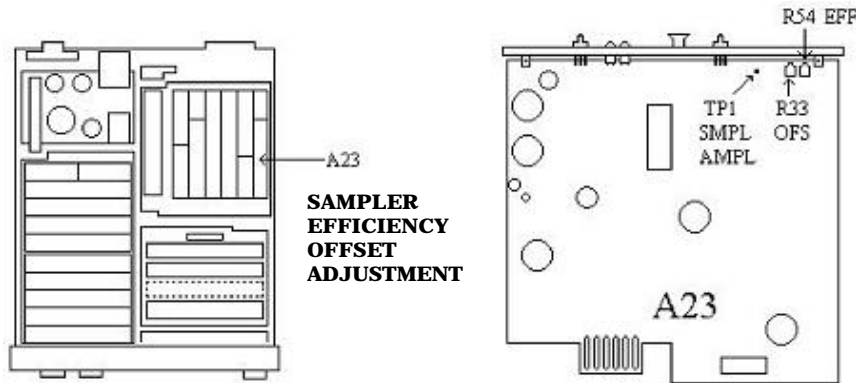

Figure 7. A23 board.
- (1) Disconnect equipment setup.
- (2) Connect TI sensor module to signal generator No. 1 **RF OUTPUT**.
- (3) Connect oscilloscope **CH1** to A23TP1 SMPL AMPL (fig 7).
- (5) Set oscilloscope for the following:
- (6) Press TI keys as listed in (a) through (c) below:
- (7) Fine tune signal generator No. 1 up slowly until a zero beat appears on oscilloscope. Then increase signal generator No. 1 frequency by 1 kHz. Record the oscilloscope peak to peak amplitude as PK#1.
- (8) Increase signal generator No. 1 frequency by 30 kHz.
- (9) Adjust A23R33 OFS (fig. 7) such that when the oscilloscope input coupling is changed from ac to dc the waveform shifts upward 50 mV. Adjust only when the input coupling is set to dc. (R)
- (10) Adjust A23R54 EFF (fig. 7) for an oscilloscope indication of PK No.1 value recorded in (7) above.